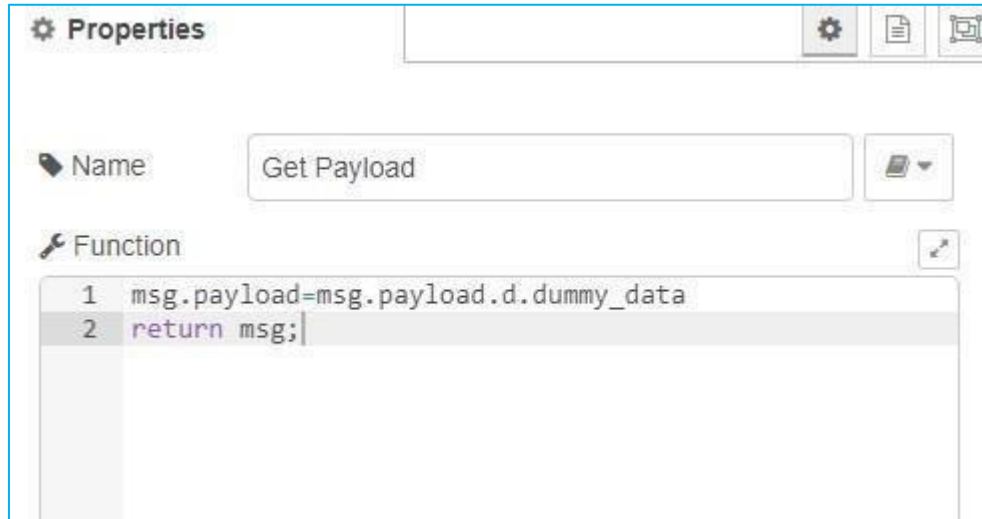
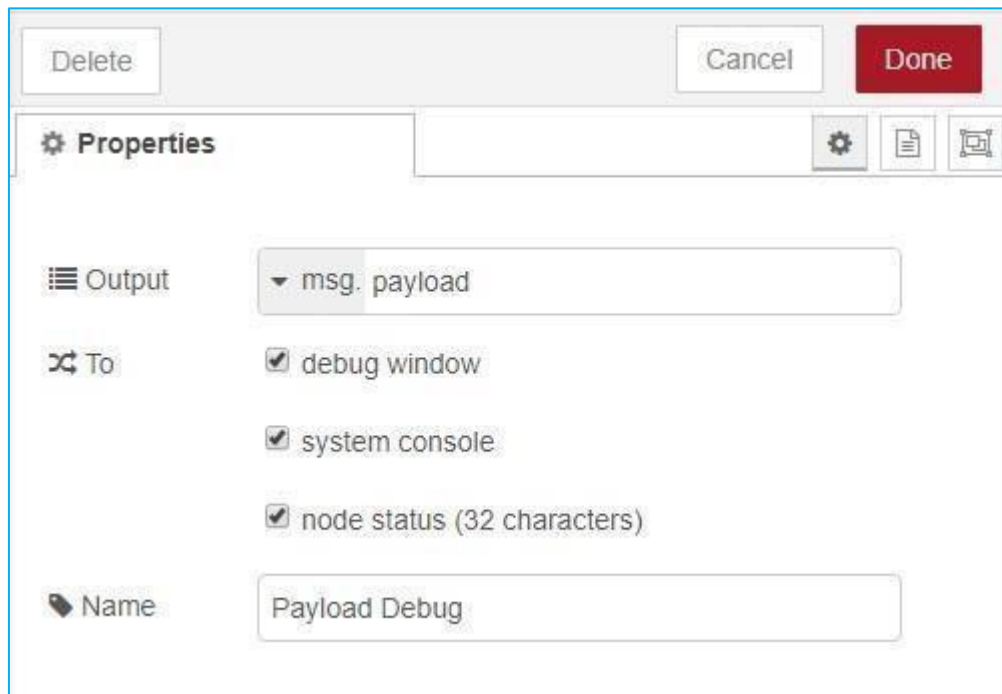

Figure 11: Get payload Function
Figure 12: Access payload to file
- Configure the device present in the flow graph in **Figure 10**, **Figure 11** and **Figure 12**.